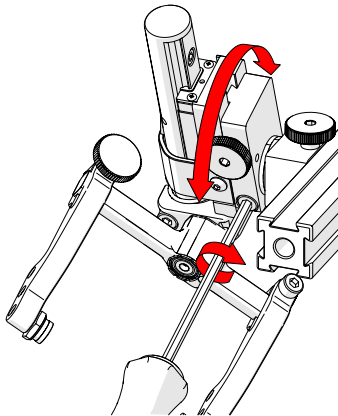

Fig. 46 - Rotate to position
4. Tighten the longitudinal adjustment screw (*Fig. 46*).